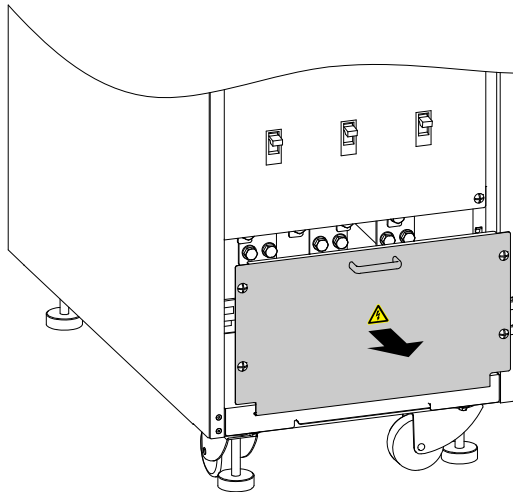

Figure3-16 Remove bottom wiring cover plate
Step 1 Open the front door of the UPS, remove the bottom wiring cover plate, as shown in Figure3-16.